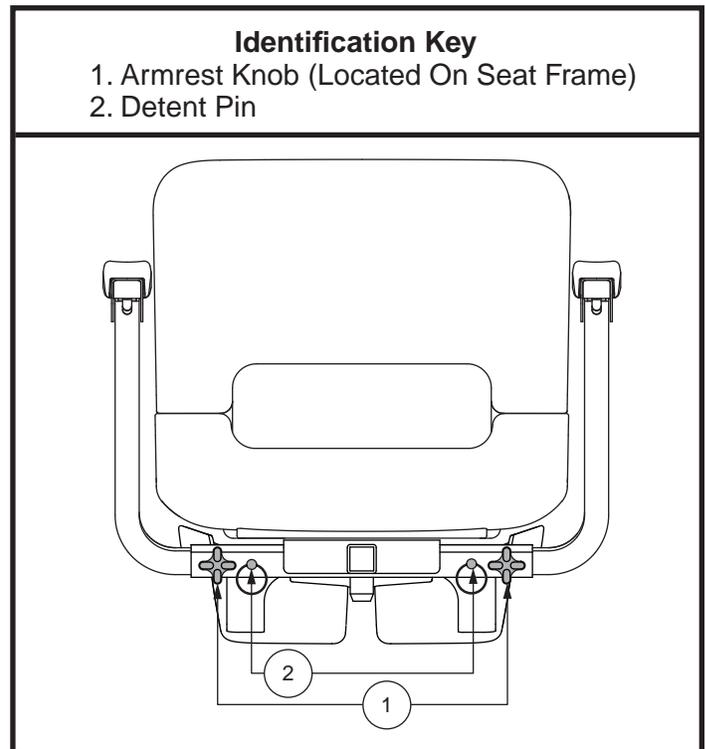

Figure 11. Armrest Width Adjustment
1. Locate the two armrest knobs on each side of the seat frame. **See figure 11.**